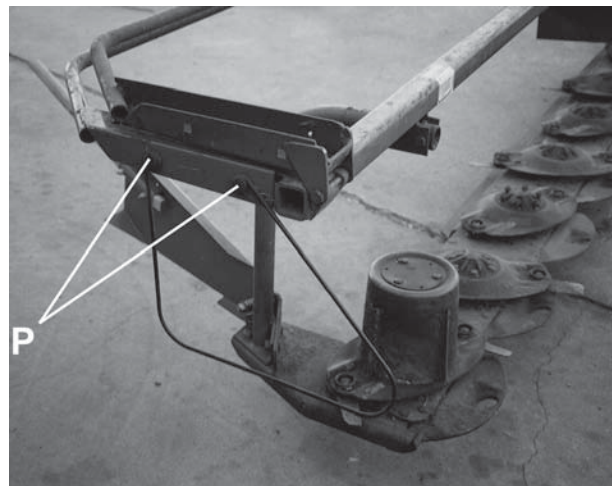

Figure 13
15. Install the outer tarp support spring to the rear cover frame (P) as shown (**Figure 13**).